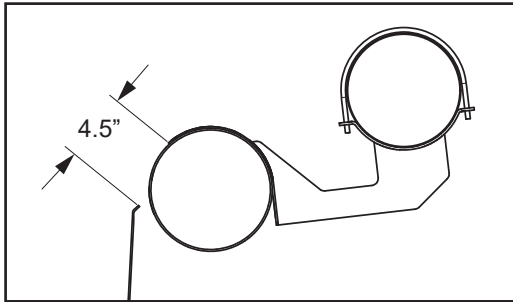

Figure 19: FD1 and FD75 tube mount Diagram
- Using three 3/8" x 3/4" bolts, install the PTO shield (1). For belt drive three 3/8 nuts are included.
- Using the table to the right, measure from the end of the header. For proper orientation reference Figure 19 to correctly position FD1 and FD75 rear tube mounts (2). Use the brackets as a template to mark and drill two 9/32" holes for each bracket.